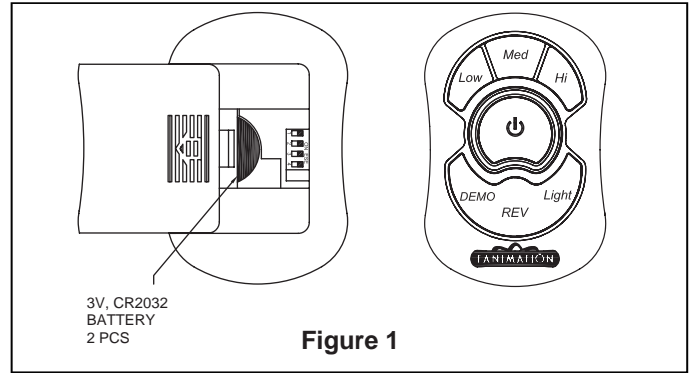

Figure 1
1. Operating & Using Remote Transmitter (Figure 1):